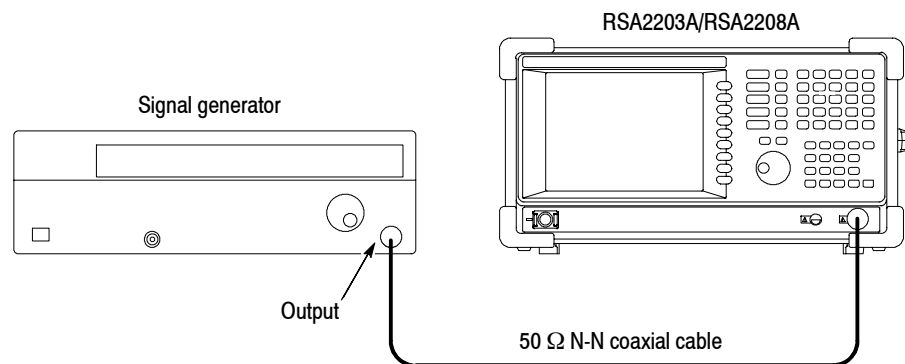

Figure 4-16: Initial test hookup
- d. *Hook up the signal generator:* Connect the generator output through a 50 Ω N-N coaxial cable to the analyzer **INPUT**. See Figure 4-16.